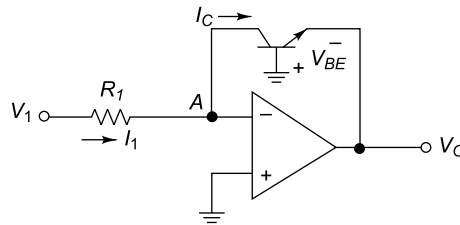

Fig. 5.59 Circuit of Ex. 5.25
5.25 Determine the output voltage V_o of a log amplifier using OP-AMP and transistor as shown in Fig. 5.59. Assume $V_{in} = 100 \text{ mV}$, $R = 10 \text{ k}\Omega$, $T = 300^\circ\text{K}$ and $I_S = 10^{-13} \text{ A}$